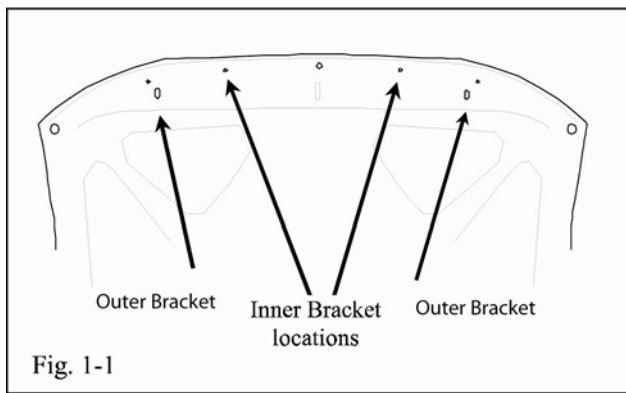

Fig. 1-1
(1) Clean leading edge of hood (top and bottom) surface using a VDC approved cleaner and cleaning method.
(2) Apply one Mylar pad to hood at each of the four (4) bracket mounting locations (Fig. 1-1). Orientate pad with narrow dimension parallel to hood edge.